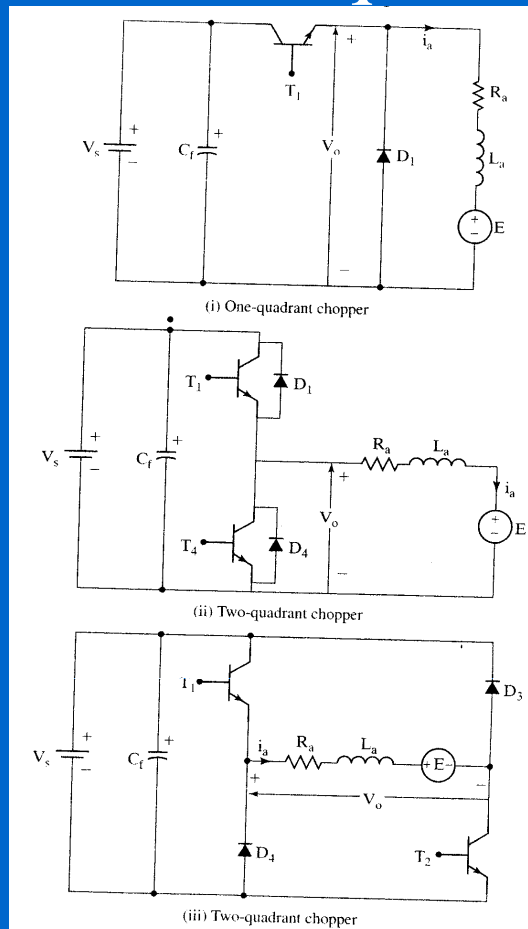

Figure 4.13 Variations of Figure 4.2 for one- and two-quadrant operation
- Fig. 4.13 one- and two-quadrant operation.